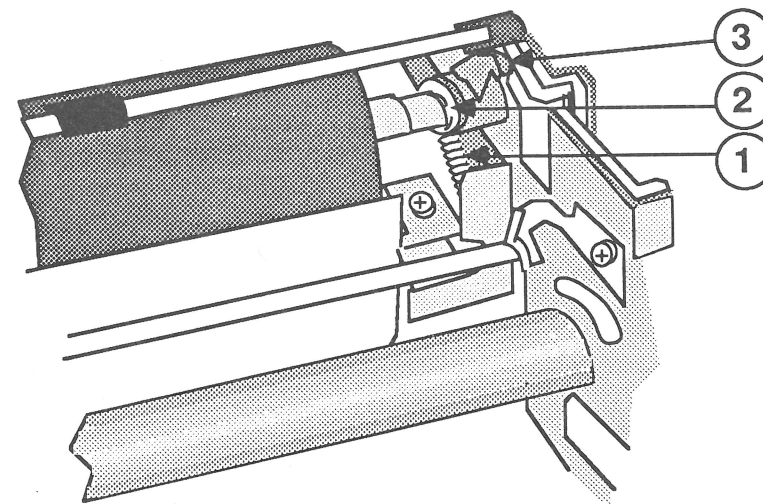

FIGURE 18
4. Remove the left and right springs between the gap adjustment cams and the paper guide plate (Figure 18, #1).
5. Using the grip-ring pliers or the small, flatblade screwdriver, remove the E-rings on the left and right gap adjustment cams (Figure 18, #2).
6. Move the left and right gap adjustment cams (Figure 18, #3) inward, toward the platen.